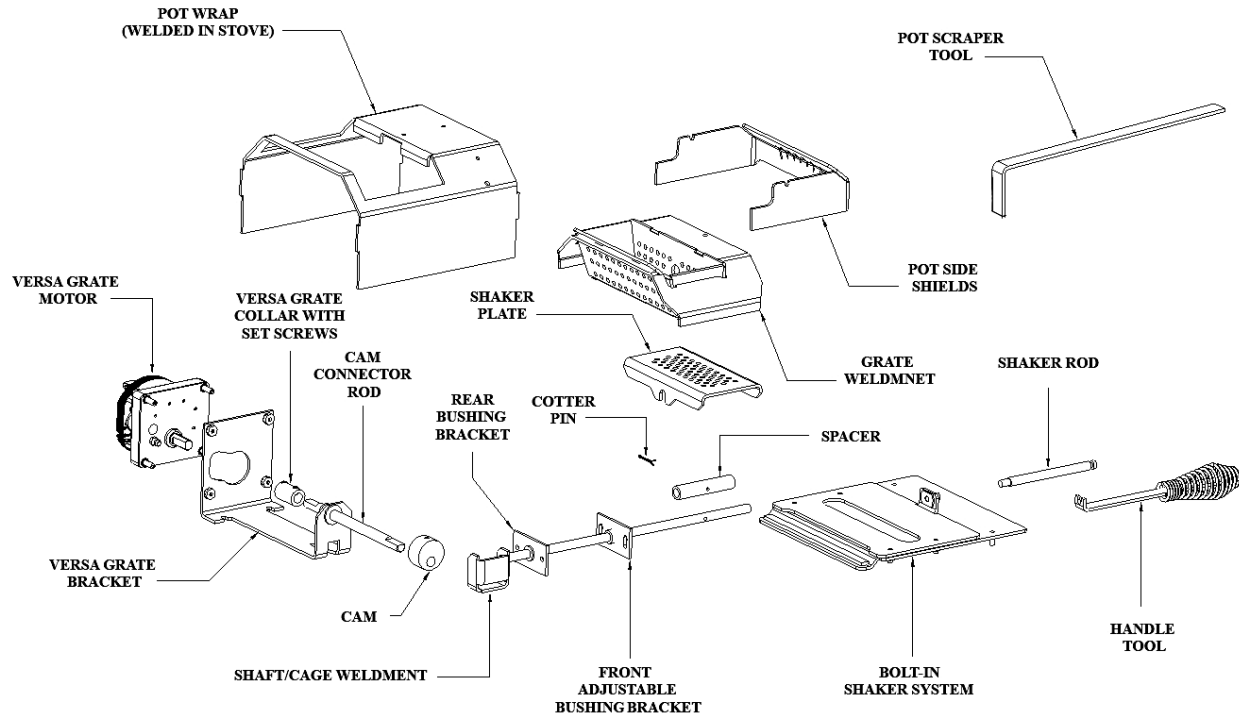

Figure 23
This feature allows the stove to operate for longer periods of time without the grate requiring cleaning. If the flame becomes dark orange, is accompanied by black smoke or burns with a lazy motion - it's time to clean the grate. Frequency of cleaning depends on the amount of fuel being burnt and the quality of the Fuel. Poor quality fuel will require more frequent cleaning of the Versa Grate System shown in figure 23.
1. Check Grate, Shaker Plate and Shaker Media (See figure 23 on the following page (*the Shaker Media is not shown*) to determine if holes are getting plugged and clean as needed. With proper precautions the grate may be partially cleaned while the stove is hot. Follow these steps:
- d. Use the “Pot Scraper tool” provided to move the burning pellets and Shaker Media to one side of the grate, checking the holes in the bottom of the grate. (See Figure 23 and 24)
small metal object (Nail, Drill Bit, etc.) to clean out plugged holes (*see Figure 23*). The Grate Weldment and Shaker Plate holes can also be cleaned without removing them by using a small steel brush to clean the holes
3. Pull the Ash Shaker Rod (*See figure 23*) several times back and forth to shake the ashes down into the Ash Pan.